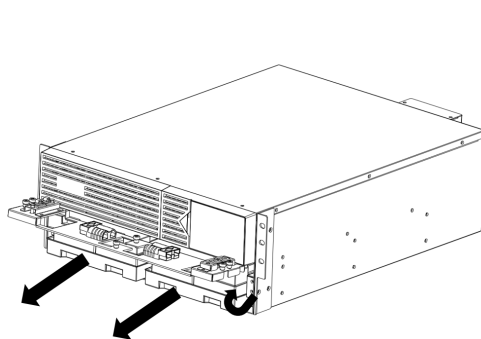

Figure 3
- 3) With a Philips screwdriver, remove the visible anchor screws on the battery retention bracket and remove the bracket from the UPS housing, exposing the internal battery modules. (Figure 3 and 4)